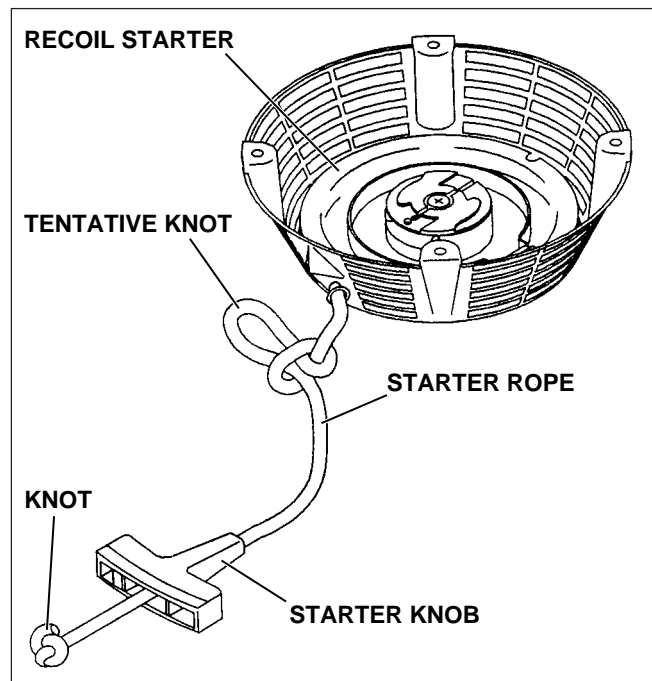

Fig. 9-1
- (1) Remove the recoil starter from engine.
- (2) Pull the starter knob to draw out the starter rope by about 30 cm and tie a tentative knot as show in Fig. 9-1.
- (3) Untie the knot inside the knob to remove the knob.